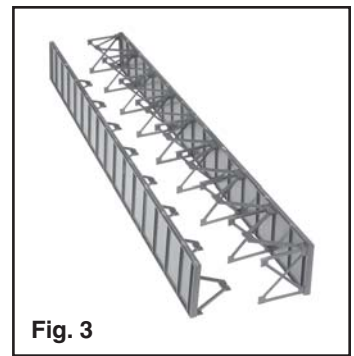

Fig. 3
a. Place one of the girders on edge with the lateral bracing down. Place the other girder on edge with the lateral bracing up and slide the two assemblies together. See fig. 3. Starting at one end, position the bracing as described in steps 2 and 4 and use rubber bands to hold the span assembly together as you work from one end to the other.